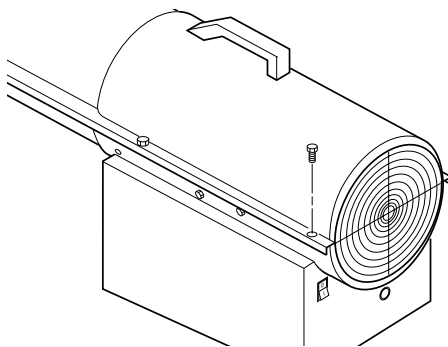

Figure 8 - Upper Shell Removal, 150 Model
1. Remove upper shell of heater. Remove screws along each side of heater using 5/16" nut-driver (see Figure 8). These screws attach upper and lower shells together.